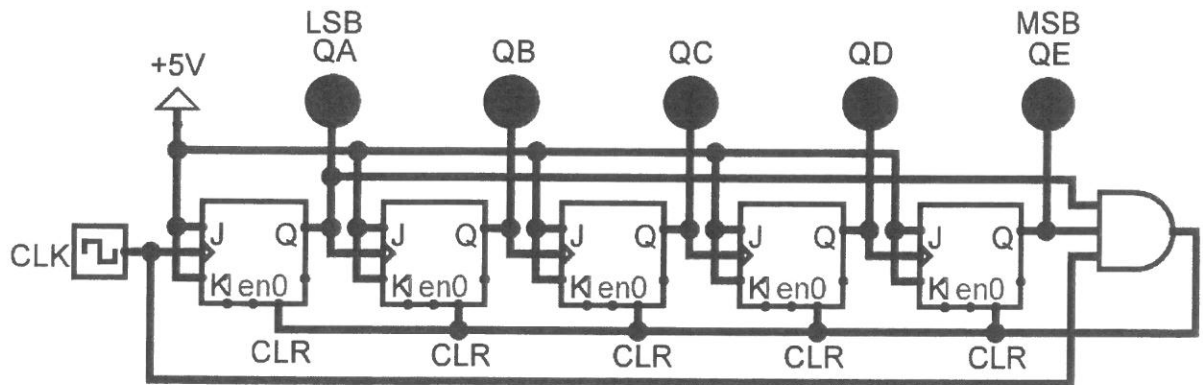

Figure 2(a)
- (a) Table 2(a) and Table 2(b) show a portion of a dual positive edge-triggered JK flip-flops (DM7476) and a triple 3-input AND gate datasheet respectively. Figure 2(a) show the logic circuit diagram of an asynchronous counter which uses positive edge-triggered JK flip-flops with labelling of  $Q_A Q_B Q_C Q_D Q_E$  where  $Q_E$  is MSB and  $Q_A$  is LSB. Assume the environment is at  $T_A = 25^\circ\text{C}$  with  $V_{CC} = 5\text{V}$ .
- (i) Analyse its operation to determine whether the logic circuit of Figure 2(a) is working as a counter or not. If not working, justify and suggest a suitable modification for the logic circuit to function as a counter. (3 marks)
- (iv) Determine the output timing diagram of Figure 2(a) with proper labelling and state the exact function of this counter. (5 marks)